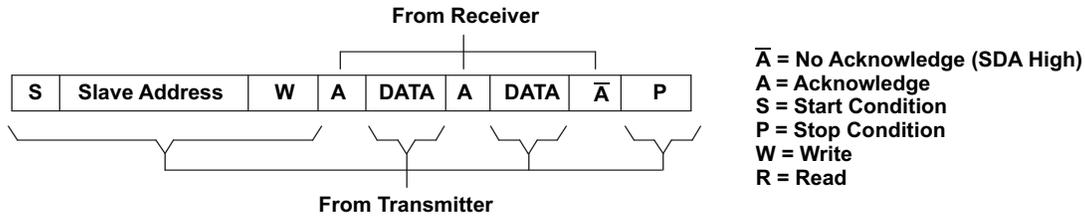
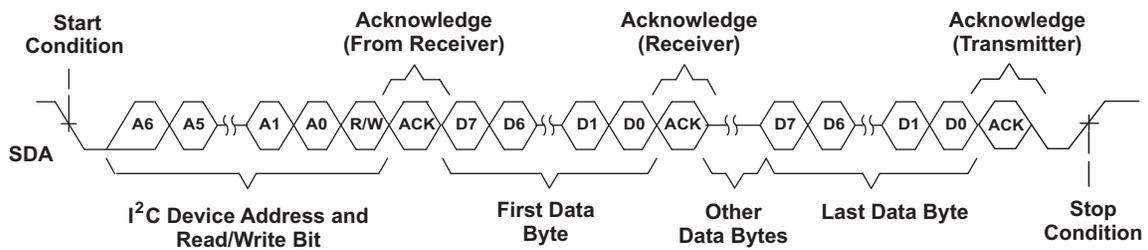
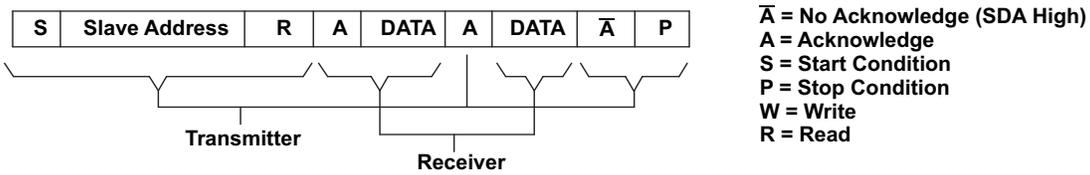
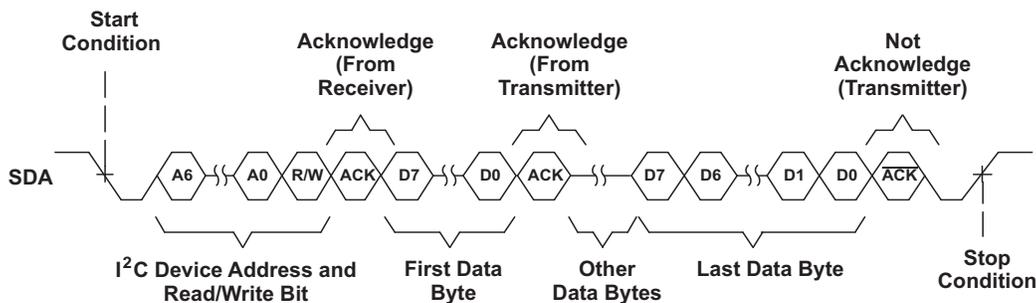

Figure 27. I²C Write Cycle
Figure 28. Multiple Byte Write Transfer
Figure 29. I²C Read Cycle
Figure 30. Multiple Byte Read Transfer
During a write cycle, the transmitting device must not drive the SDA signal line during the acknowledge cycle so that the receiving device may drive the SDA signal low. After each byte transfer following the address byte, the receiving device will pull the SDA line low for one SCL clock cycle. A stop condition will be initiated by the transmitting device after the last byte is transferred. An example of a write cycle can be found in Figure 27 and Figure 28. Note that the TMDS442 does not allow multiple write transfers to occur. See Example – Writing to the TMDS442 section for more information.
acknowledges data bytes sent by the slave. When the master has received all of the requested data bytes from the slave, the not acknowledge (A) condition is initiated by the master by keeping the SDA signal high just before it asserts the stop (P) condition. This sequence terminates a read cycle as shown in Figure 29 and Figure 30. Note that the TMDS442 does not allow multiple read transfers to occur. See Example – Reading from the TMDS442 section for more information.
The TMDS442 operates using only a single byte transfer protocol similar to Figure 27 and Figure 29. The internal sub-address registers and the functionality of each can be found in Table 2. When writing to the device, it is required to send one byte of data to the corresponding internal sub-address. If control of two sink ports and source plug-in status is desired, then the master will have to cycle through the sub-addresses (sink ports) one at a time as illustrated in the Example – Writing to the TMDS442 section for the proper procedure of writing to the TMDS442.